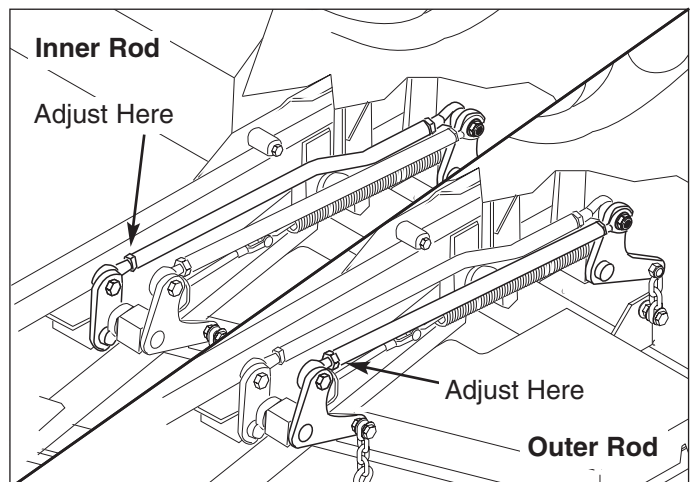

Figure 21. Adjust the Inner & Outer Lift Rods
8. Refer to Figure 21. To adjust the inner lift rod, loosen the jam nut on the front ball joint then remove the 1/2" hardware fastening the ball joint the the lift pivot arm. Turn the ball joint clockwise to shorten the distance between the rod pivots or counterclockwise to lengthen the distance between the rod pivots. Reinstall the ball joint on the lift pivot arm and secure with the 1/2" hardware previously removed. Tighten the jam nut against the lift rod.
9. Refer to Figure 21. To adjust the inner lift rod, loosen the jam nut on the front ball joint then remove the 1/2" hardware fastening the ball joint the the lift pivot arm. Turn the ball joint clockwise to shorten the distance between the rod pivots or counterclockwise to lengthen the distance between the rod pivots. Reinstall the ball joint on the lift pivot arm and secure with the 1/2" hardware previously removed. Tighten the jam nut against the lift rod.